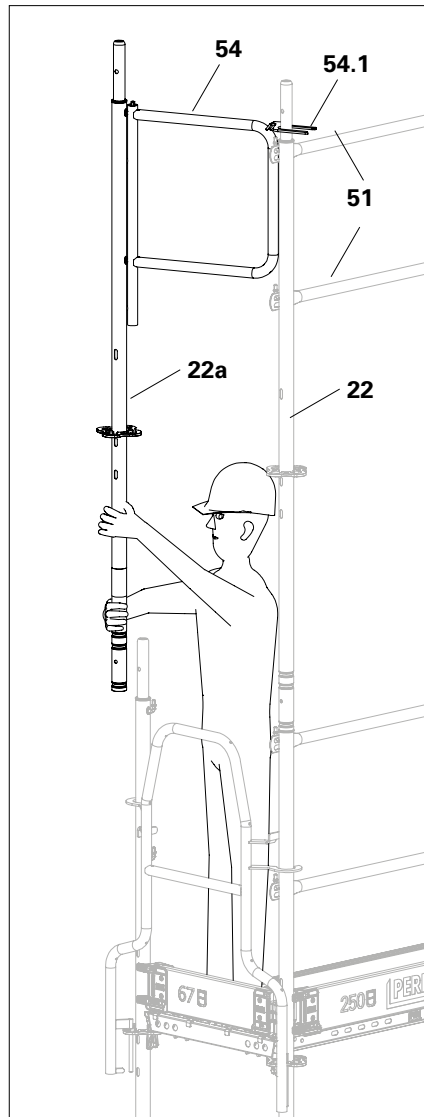

Fig. A3.16a
1. Fit the first Easy Standard EVM (22) onto the scaffold.
2. Fit the Guardrail Posts EPG (51) in a double-advanced manner in the edge bay.
3. Pre-assemble the End Guardrails EPF (54) on the second Easy Standard (22a).
4. Place the Easy Standard with its pre-assembled end guardrail on the scaffold in the assembly position and attach the fork (54.1) to the previously assembled standard. (Fig. A3.16a)